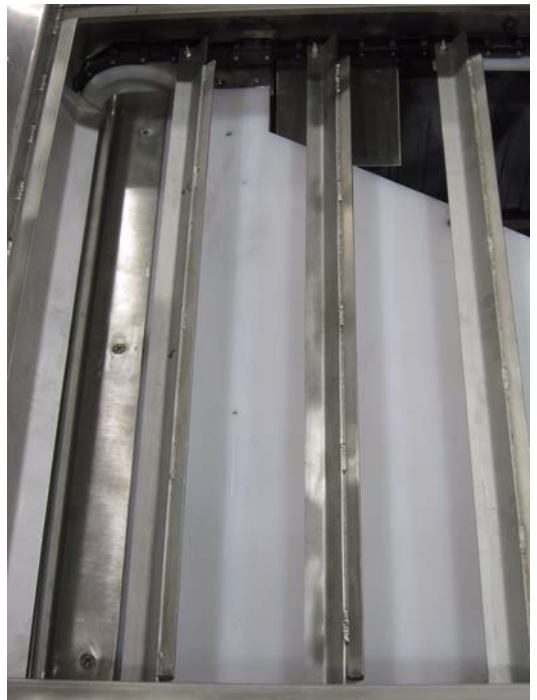

**Figure 5-3. Installing Curved Transfer Plate and Bedding Fall Guide**
See Figure 5-3.
1. Install curved transfer plate (P117052-757) on end of upper part of bedding distributor plate (see Figure 5-3, Detail A).
2. Secure curved transfer plate using three countersunk bolts (see Figure 5-3, Detail B).
3. Install bedding fall guide (P117052-757) on frame of bedding dispenser (see Figure 5-3, Detail C).
4. Secure bedding fall guide using two bolts and nuts (see Figure 5-3, Detail C).
**Installation is now completed (see Figure 5-3, Detail D).**